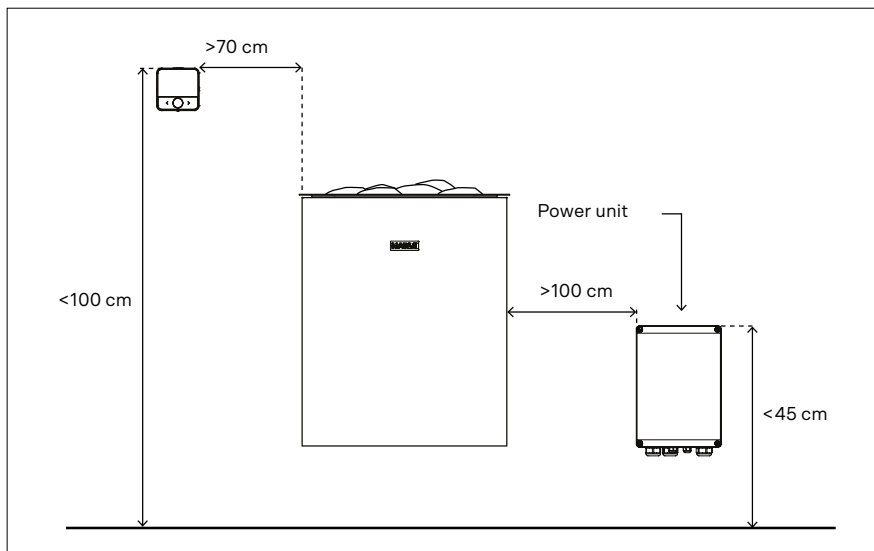

Figure 6.1-1. Minimum safety distances for the system (power extension units must not be installed in the sauna)
When installed in the steam room, the minimum safety distances from the heater specified in the installation instructions must be observed (Figure 6.1-1). Refer to the specific section of this manual for detailed installation and connection instructions for the system components.
Follow the minimum safety distances for installation! (Figure 6.1-1)
- The control unit must not be installed in a location where the temperature exceeds 80°C maximum temperature. If the control unit is installed in the steam room, the installation location must be at least the minimum protection distance (0.7 m) from the heater and at most one meter (1 m) above the floor (Figure 6.1-1). Power supply cables and the control unit's cable should not be installed next to each other to avoid interference. A 6-meter control unit cable (SIHF-O 4x0.25) is supplied with the control unit, which should not be extended.